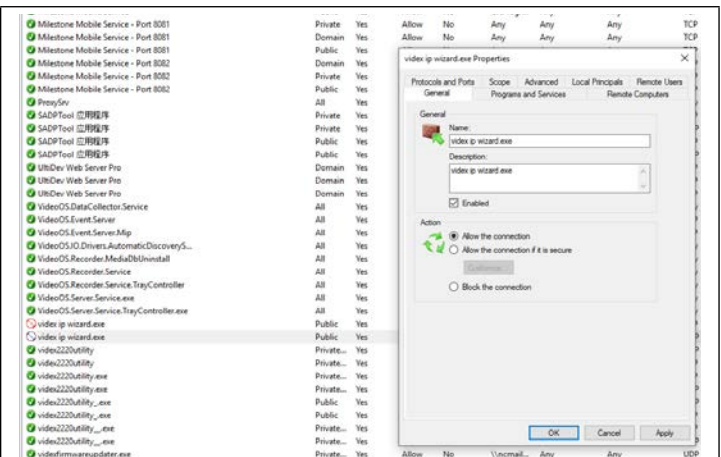

Fig. 60 Allow the connection
- » Select the radio button "Allow the connection" (**Fig. 60**) then click "OK"